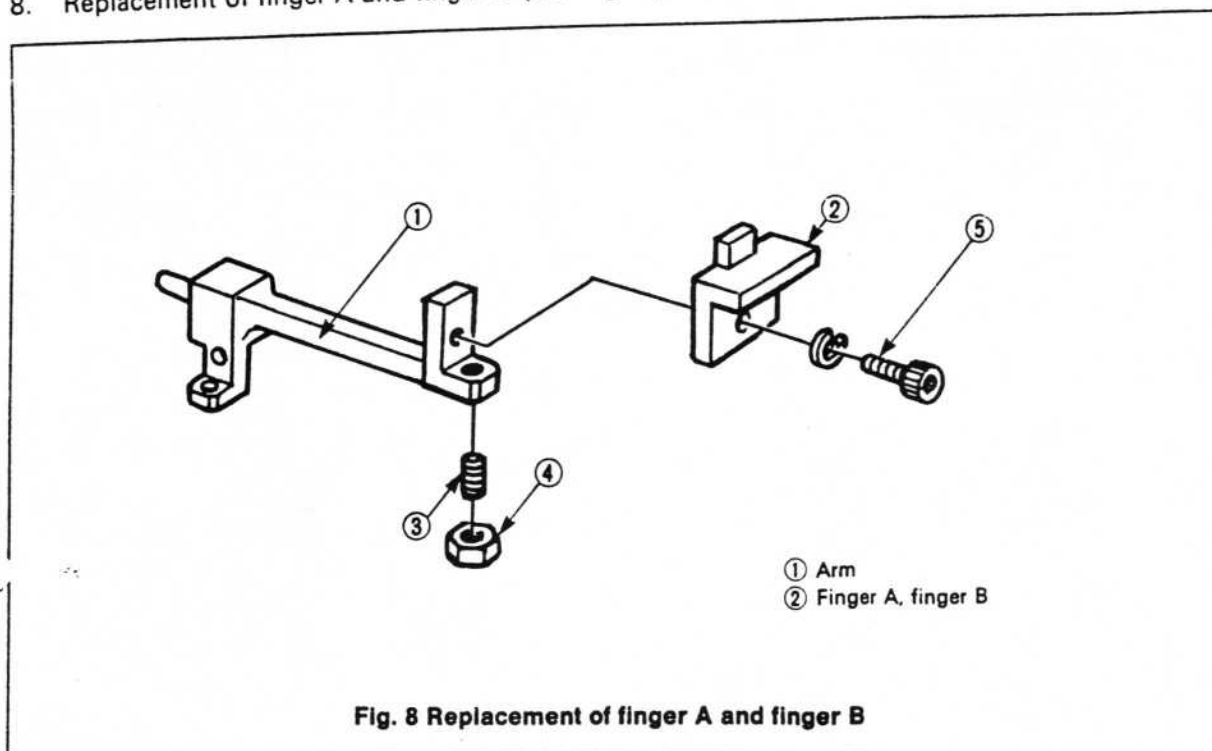

Fig. 8 Replacement of finger A and finger B
- (1) Place the ball slide's chamfering on the inside as in the figure on the right, and attach to the arm (④).
- (2) Insert the arm's parallel pin in the long hole of lever A (or lever B), push the ball slide's upper surface against the lower surface of the chucking base and secure with the screws (⑤).
8. Replacement of finger A and finger B (see Fig. 8).